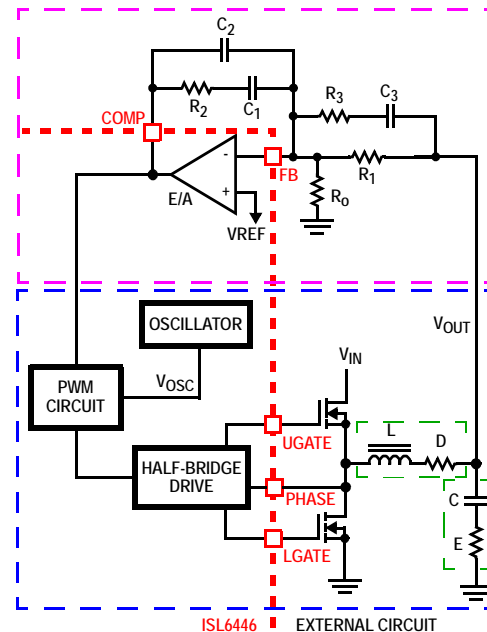

FIGURE 26. VOLTAGE-MODE BUCK CONVERTER COMPENSATION DESIGN
Figure 26 highlights the voltage-mode control loop for a synchronous-rectified buck converter, applicable to the ISL6446 circuit. The output voltage (V_{OUT}) is regulated to the reference voltage, V_{REF} . The error amplifier output (COMP pin voltage) is compared with the oscillator (OSC) modified sawtooth wave to provide a pulse-width modulated wave with an amplitude of V_{IN} at the PHASE node. The PWM wave is smoothed by the output filter (L and C). The output filter capacitor bank’s equivalent series resistance is represented by the series resistor E.
The compensation network consists of the error amplifier (internal to the ISL6446) and the external R_1 through R_3 , C_1 through C_3 components. The goal of the compensation network is to provide a closed loop transfer function with high OdB crossing frequency (F_0 ; typically 0.1 to 0.3 of f_{SW}) and adequate phase margin (better than 45°). Phase margin is the difference between the closed loop phase at F_{0dB} and 180° . The equations that follow relate the compensation network's poles, zeros and gain to the components (R_1 , R_2 , R_3 , C_1 , C_2 , and C_3) in Figure 26. Use the following guidelines for locating the poles and zeros of the compensation network:
1. Select a value for R_1 (1k Ω to 5k Ω , typically). Calculate the value for R_2 for desired converter bandwidth (F_0). If setting the output voltage via an offset resistor connected to the FB pin, R_0 in Figure 26, the design procedure can be followed as presented in Equation 13.